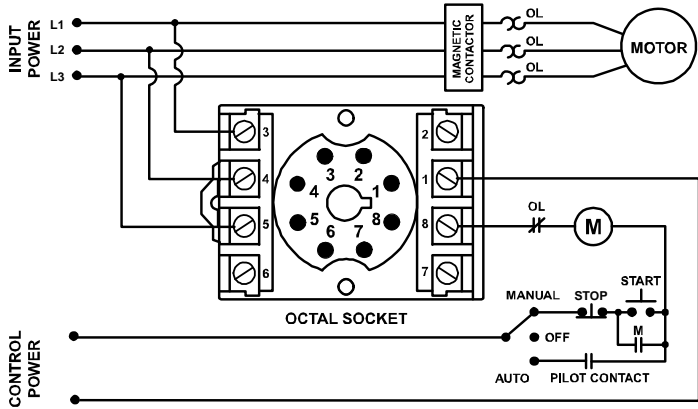
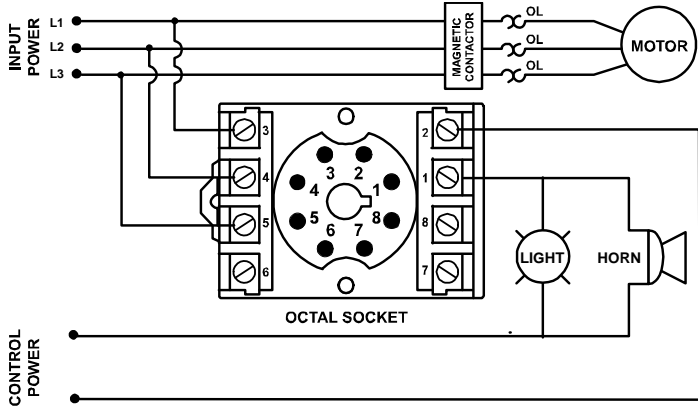

Figure 1: Typical Wiring Diagram
Figure 2: Alarm/Horn Wiring Diagram
3. Connect L1, L2 and L3 (terminals 3, 4 & 5 on the relay socket) to the LINE SIDE of the motor starter as shown in Figure 1.
4. Connect the output relay to the circuitry to be controlled. For motor control, connect the normally open contact in series with the magnetic coil of the motor starter as shown in Figure 1. For alarm operation, connect the normally closed contact in series with the control circuit as shown in Figure 2.